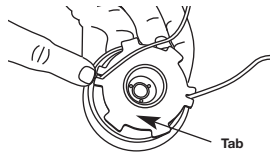

Fig. 33
- Insert the end of the line into the open hole in the inner reel and pull the line tight to make the loop as small as possible (Fig. 33).
- Insert the ends of the line into the two holding slots (Fig. 33).